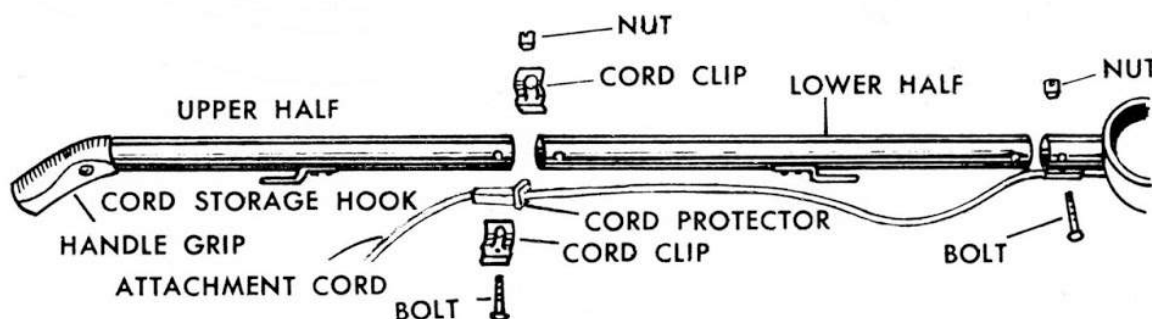

FIG. 1
- a. Place lower handle in bail socket with open end of cord storage hooks down and to rear. Push bolt through opening and secure with nut. See FIG. 1.
- b. Join upper and lower half of handle, lining up holes. Insert bolt through cord support clip (small hole) through both parts of handle and cord clip (large hole) and secure with nut. Before tightening the nut place cord protector in opening between clips. Pull up slack in cord and tighten nut. See FIG. 1.